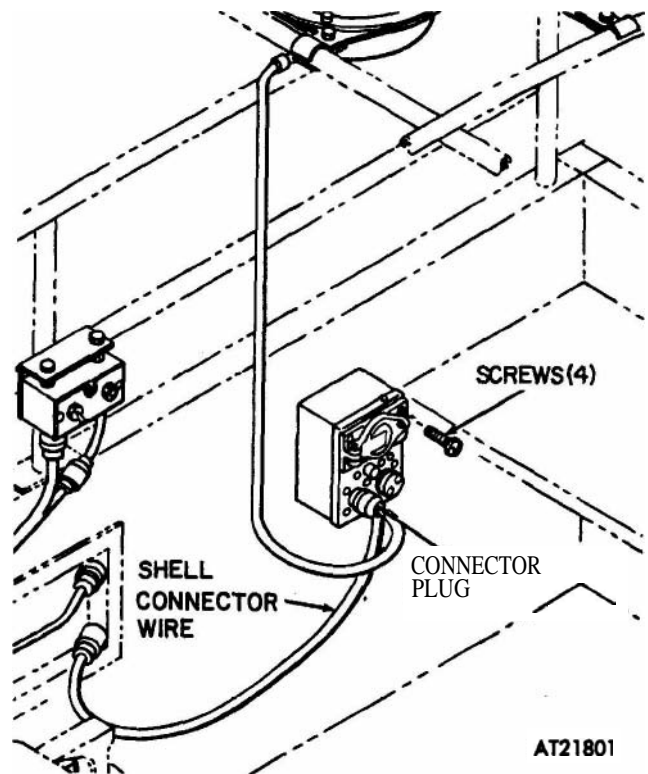

Figure 2-148. Convenience receptacle control box.
(1) Disconnect any wires which may be connected to the two convenience receptacles on control box (fig 2-148).
(2) Disconnect connector plug and two shell connectors from control box.
(3) Remove convenience receptacle control box from carrier wall by removing four screws.